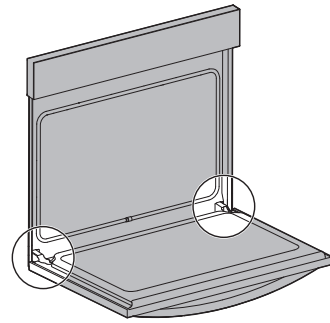

Figure 20: Door hinge location
1. Open oven door completely, horizontal with floor (Figure 20).
3. Fully open the oven door, horizontal with floor (Figure 20).